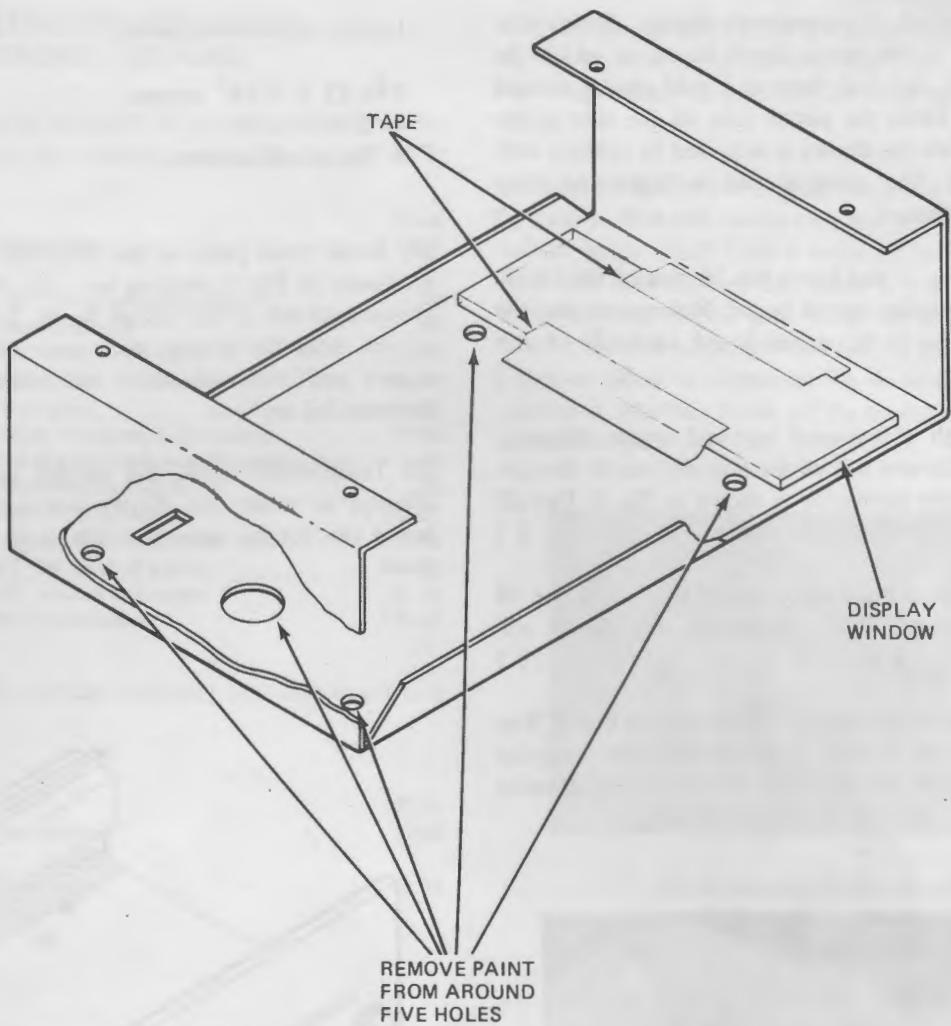

Fig. 8. Preparing the front panel.
Refer to Fig. 8 for the following steps:
- (1) Locate the front panel (PA63) and the display window with masking tape (MS90). Remove the tape from the window and peel off the protective paper from both sides of the window. Place the window over the rectangular opening in the panel and cut two lengths of the masking tape to a size that will enable you to tape the window in place as shown without making the tape visible from the outside of the panel ....()
- (2) If there is any paint around the five holes shown in Fig. 8, carefully scrape it away with a knife or a piece of sandpaper .....
- (3) When you have completed the front panel, take the circuit board assembly and place it in position in the inside of the panel. Hold the display with your fingers so it stays in place, and align the four 7/16" spacers with the four mounting holes in the front panel. The display will rest against the display window, and the foamstick tape will compress slightly as you